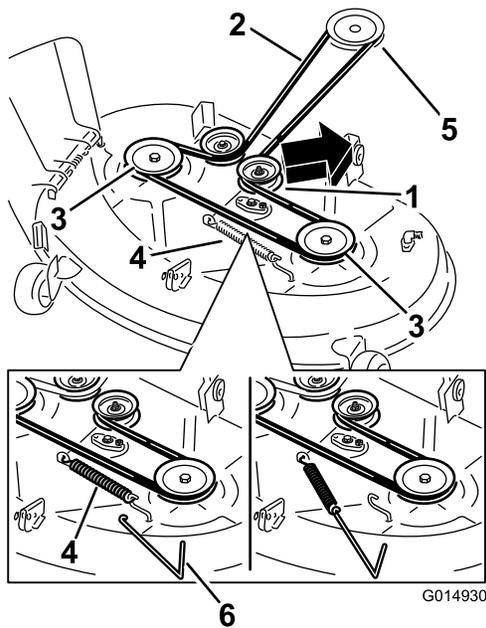
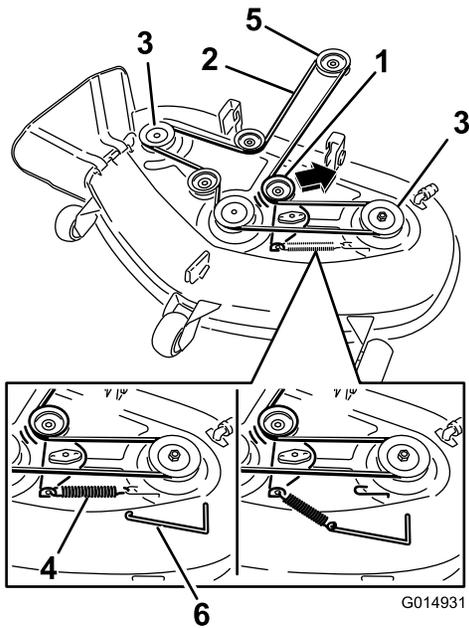

Figure 53
Figure 54
5. Using a spring-removal tool, (Toro Part No. 92-5771), remove the idler spring from the deck hook to remove tension on the idler pulley, and roll the belt off the pulleys (Figure 53 and Figure 54).
- Route the new belt around the engine pulley and mower pulleys (Figure 54).
- Using a spring-removal tool, install the idler spring over the deck hook, and place tension on the idler pulley and mower belt (Figure 53 and Figure 54).